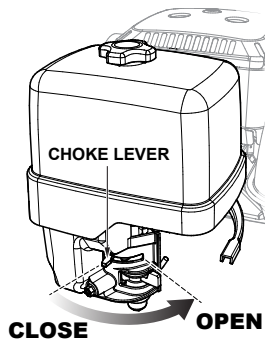

Figure 14. Choke Lever (Open)
7. If the engine has started and the choke lever was moved to the **CLOSED** position to start the engine, gradually move the choke lever to the **OPEN** position (Figure 14) as the engine warms up. If the engine has not started repeat steps 1 through 6.